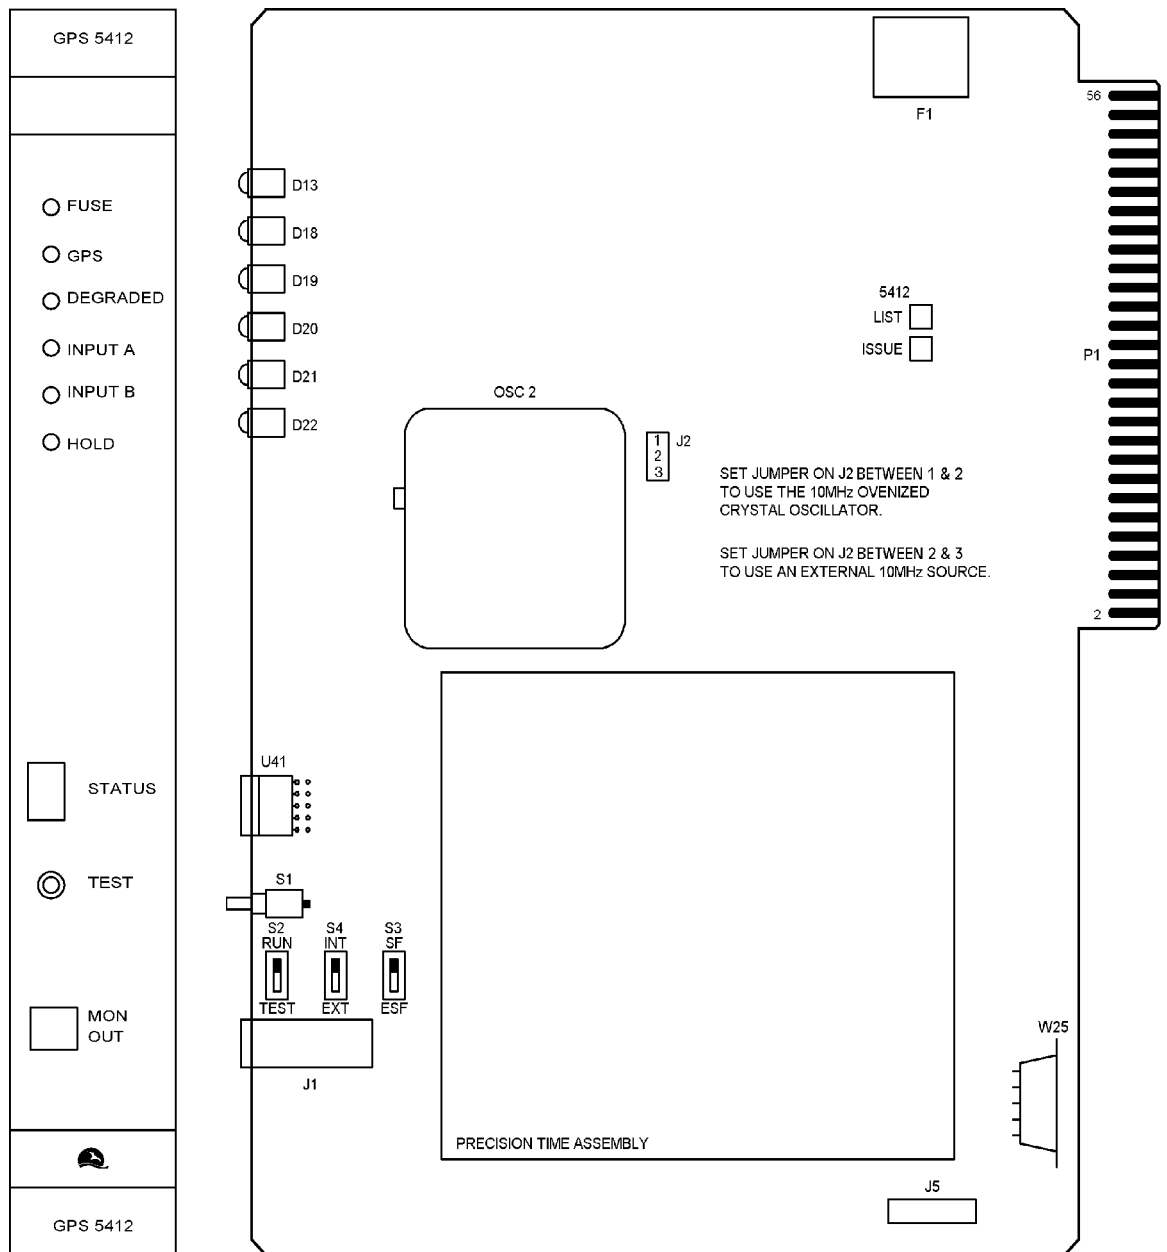

Figure 3-12. Model 5412 GPS Stratum 1 Track and Stratum 3E Enhanced Hold Card with Front Panel
3.3111 For card layout and front panel of the Model 5412, refer to Figure 3-12.